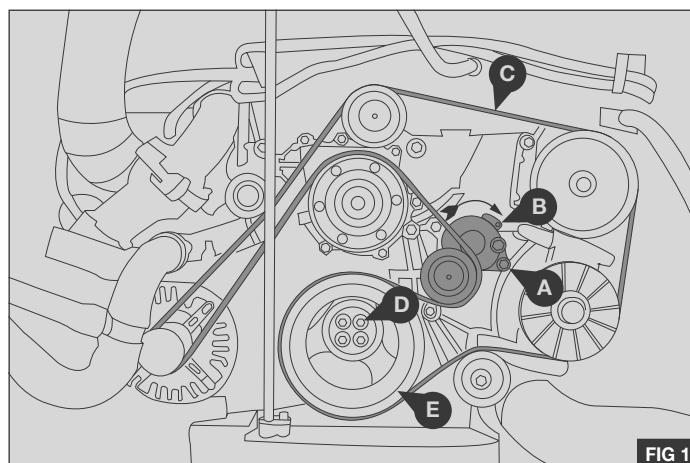

FIG 1
1. Using a suitable tool rotate the automatic belt tensioner pulley (A) clockwise and insert a suitable 4mm pin, an Allen key is ideal for this purpose (B) - Fig.1
2. Remove original manufacturers poly groove drive belt (C), noting the original routing.
3. Remove 4 x bolts (D) from crank pulley (E) and discard- Fig 1